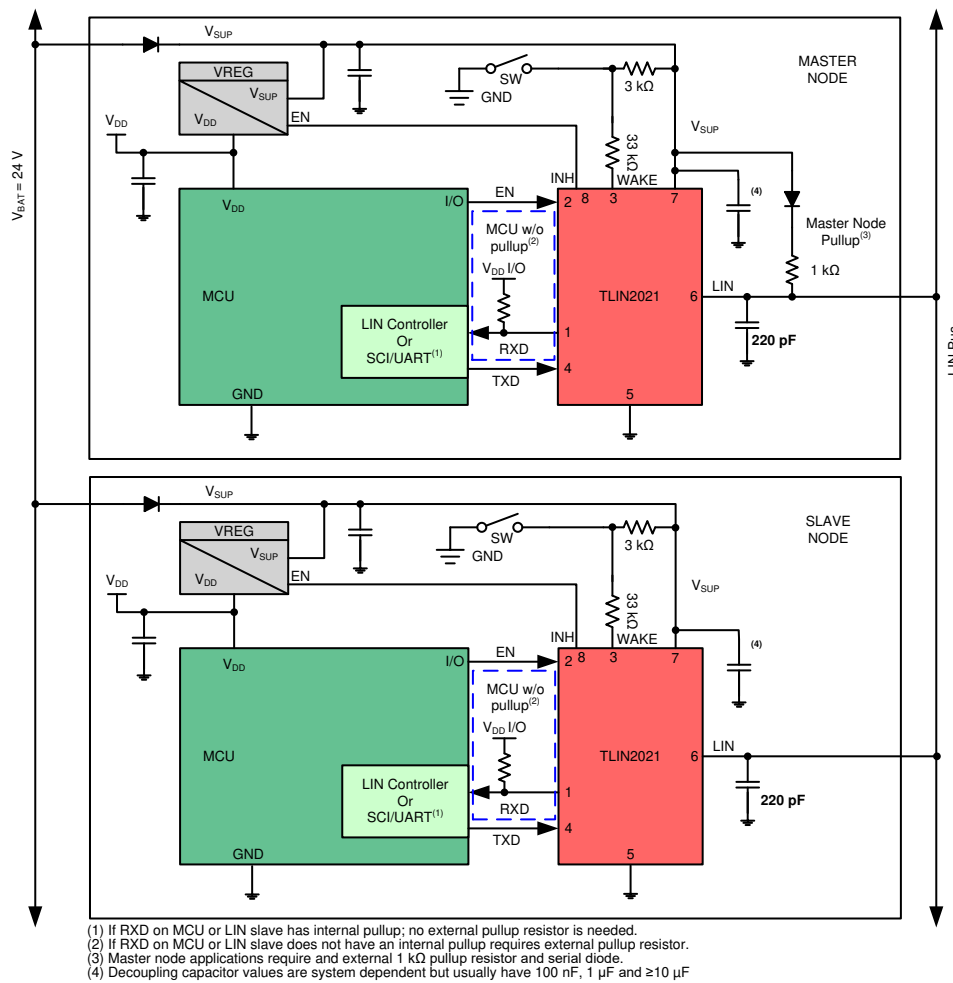

Figure 30. Typical LIN Bus
- **Pin 2 (EN):** EN is an input pin that is used to place the device in low-power sleep mode. If this feature is not used the pin should be connected to the supply voltage for the controller through a series resistor using a pull-up value between 1 kΩ and 10 kΩ. Additionally, a series resistor may be placed on the pin to limit current on the digital lines in the case of an over-voltage fault.
- **Pin 6 (LIN):** The LIN pin connects to the TLIN2021-Q1 to the LIN bus. For slave applications a 220 pF capacitor to ground is implemented. For master applications an additional series resistor and blocking diode should be placed between the LIN pin and the V_{SUP} pin, see Figure 30.